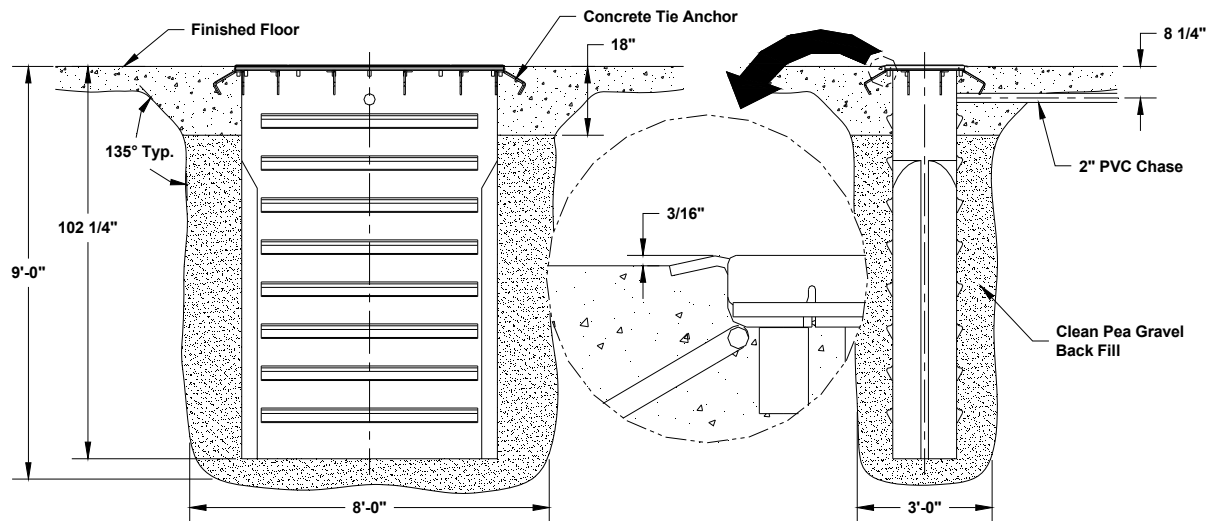

Fig. 2
New construction requires an excavation as shown in **Fig. 2**. **NOTE:** Concrete must be finished to edge of concrete tie (3/16" below top of concrete ties, see **Fig. 2** below). All depths are measured from the finished floor level. Failure to comply will void the warranty. The power unit may be installed on the nearest wall or floor pedestal. The power unit should be located out of the working area around the lift and vehicle, but close enough to allow good visibility while operating the lift. Hydraulic and air lines from the lift should be recessed under the slab in a 2" sch. 40 PVC chase. CLI will supply the proper coupling to join the PVC chase to the lift.
9. Pour concrete floor taking care not to run concrete in or on top of the lift / containment assembly. **NOTE:** Concrete must be finished to edge of concrete tie (3/16" below top of concrete ties, see **Fig. 2**). The floor should slope away from the lift for drainage. The floor slope should not exceed 1/16" per foot. 3500 psi concrete, steel reinforced per local commercial practice is required. The new concrete must be mechanically joined to the existing floor (minimum #6 rebar no larger than 24" O.C.).